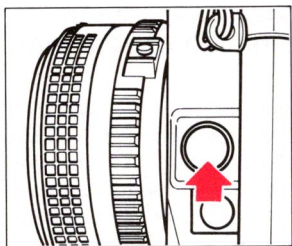

Fig. 57
2. Press the AE Lock Button once to memorize the exposure. A flickering AEL is displayed in the viewfinder. (Fig. 57)